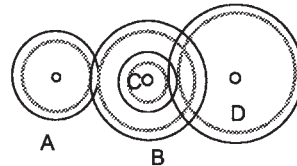

Figure 27.26 Problem 18
- 18 A compound gear train of the form shown in Figure 27.26 has an input gear A with 48 teeth and A engaging with wheel B having 144 teeth. Wheel B is on the same shaft as wheel C which has 80 teeth and engages with wheel D on the output shaft with 160 teeth. Determine the overall velocity ratio of the system.